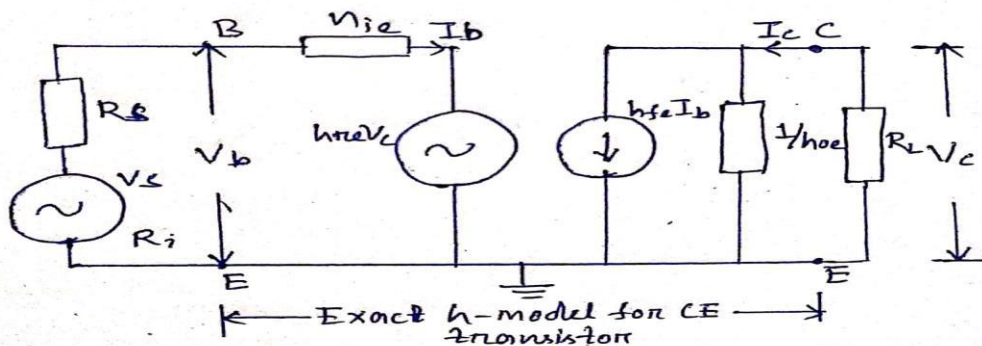

Figure 1: Equivalent circuit using exact h model
Figure 1 gives the equivalent circuit of CE amplifier using exact h-model for CE transistor.
**Output resistance  $R_0$ :** From this approximate equivalent circuit of figure 1(b) with  $V_s = 0$  and with external voltage source connected across the output, we get  $I_b = 0$  and therefore  $I_c = 0$ . Hence output resistance  $R_0 = \infty$ . However, in actual practice,  $R_0$  lies between  $40k\Omega$  and  $80k\Omega$  depending on the value of  $R_S$ .